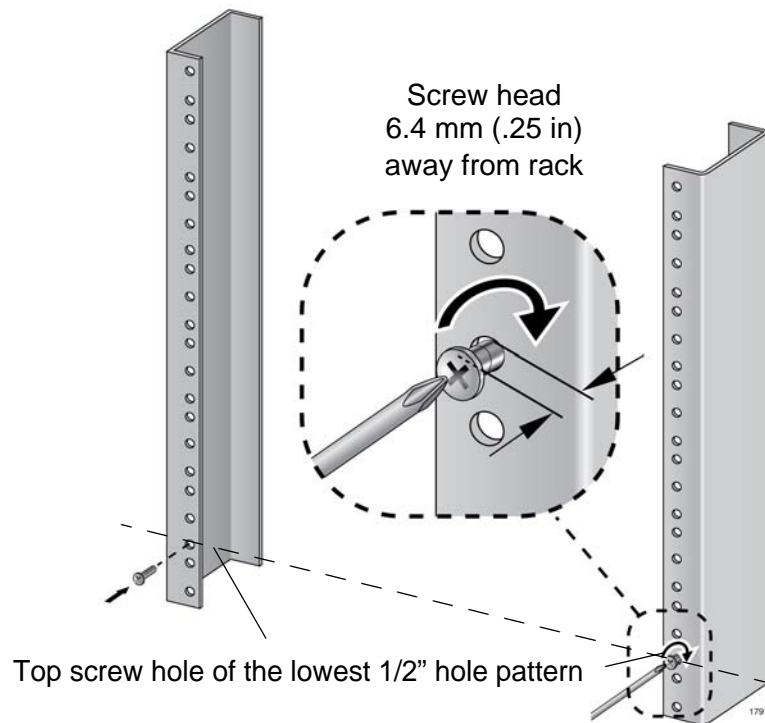

Figure 36. Rack Mounting Hole Locations
4. Install one rack mount screw in each vertical rail, at the same height in the top screw hole of the lowest 1/2" hole pattern, as shown in Figure 36 on page 95. The screws are used to support the chassis while you secure it to the rack. Do not fully tighten the screws at this time. The screw heads should protrude from the rack approximately 6.4 mm (.25 in).